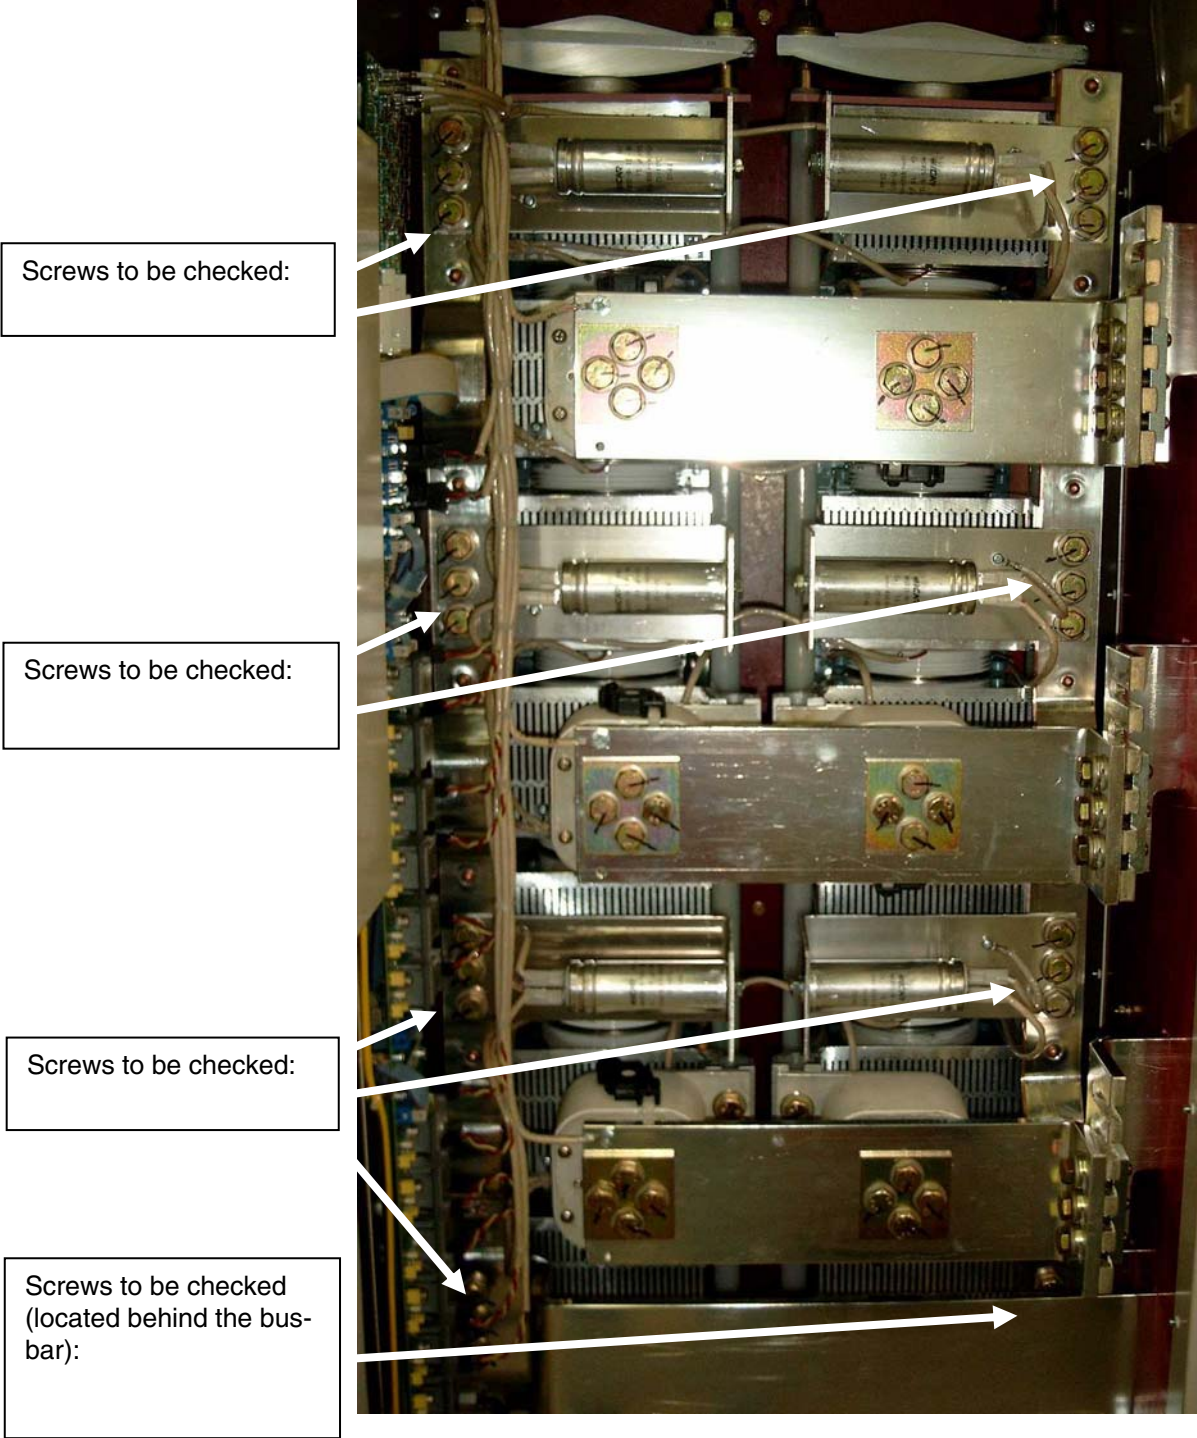

Figure 11-1: Power part of a converter module type A7/C4
- Check the torque of the screws marked within *Figure 11-1* at the end of this chapter: